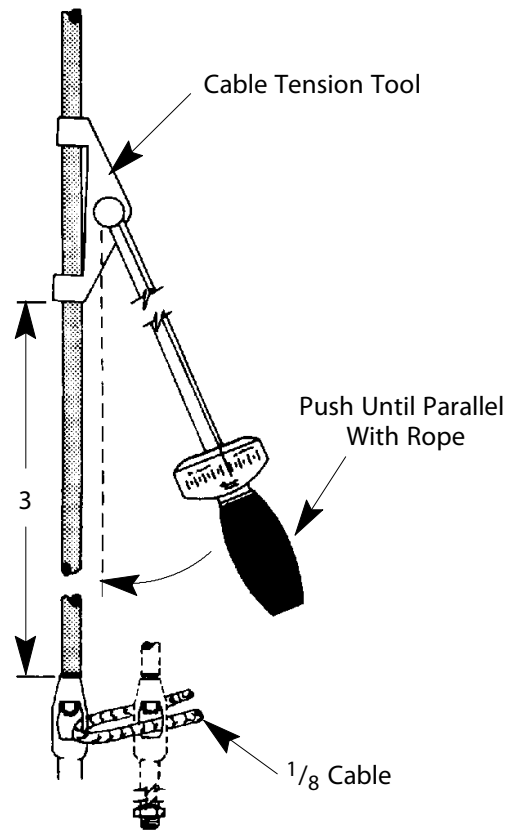

Figure 27 - Cable Tension Tool and Chart
3. Adjust the rod nuts until the tension readings are within 5 ft/lbs. of each other. See Figure 27.